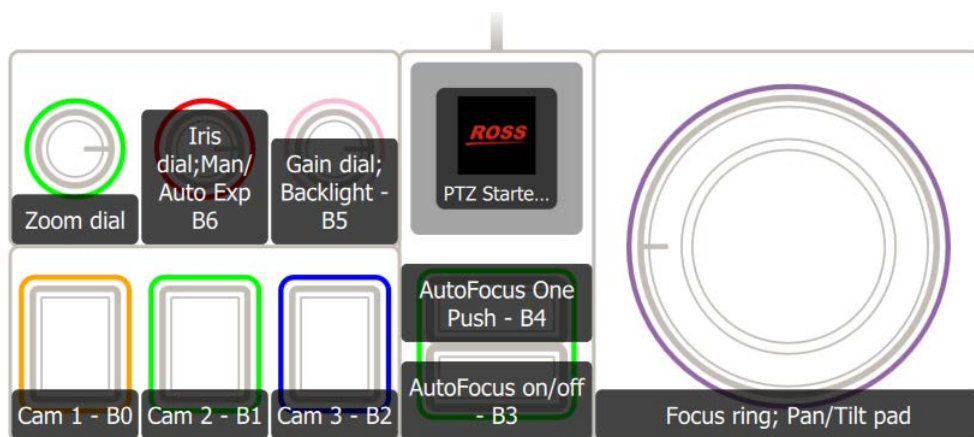
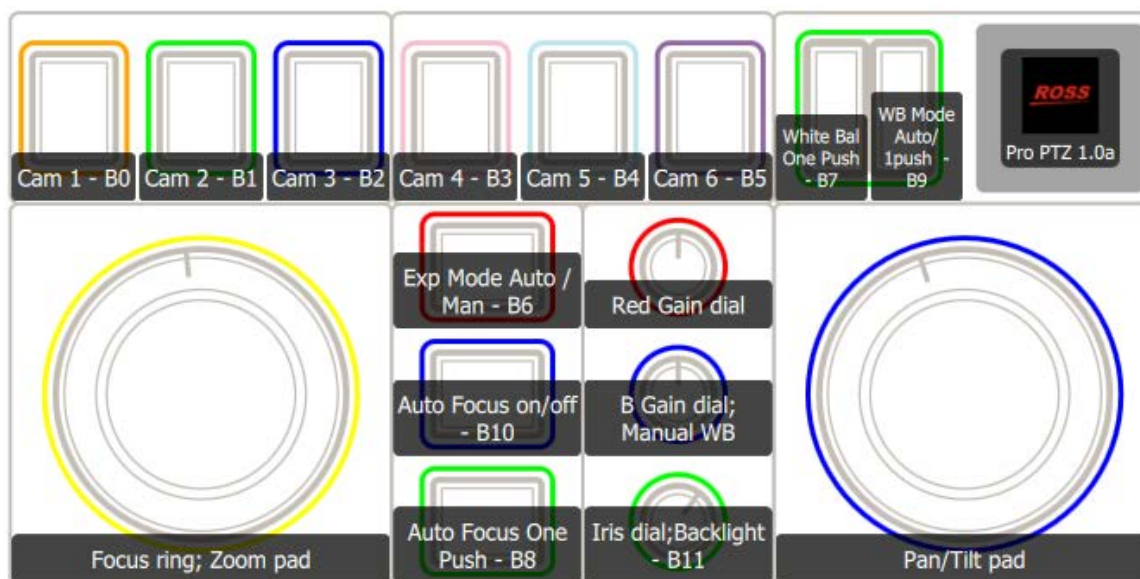
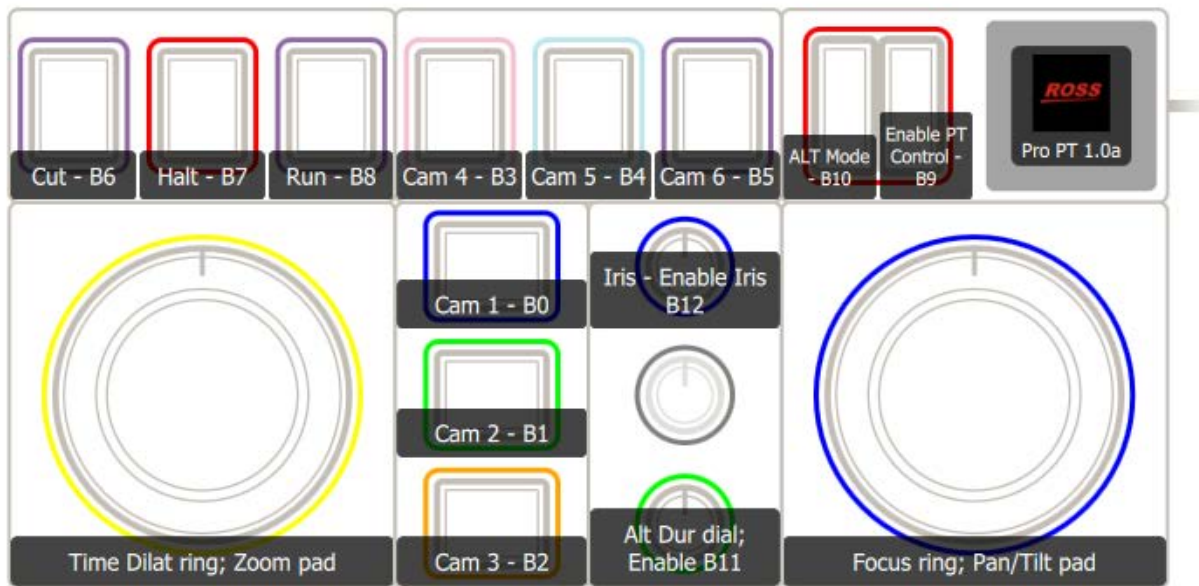

Figure 28 - Monogram Creator Layout — PTZ Starter Package Controlling PTZ Cameras
Figure 29 - Monogram Creator Layout — PTZ Pro Package Controlling PTZ Cameras
Figure 30 - Monogram Creator Layout — PTZ Pro Package Controlling PT Heads
6. If the controls still do not appear in the expected positions as shown in Figure 28 (for PTZ_Starter), Figure 29 (for PTZ Pro for PTZ Cameras), or Figure 30 (for PTZ Pro controlling PT Heads), do the following: